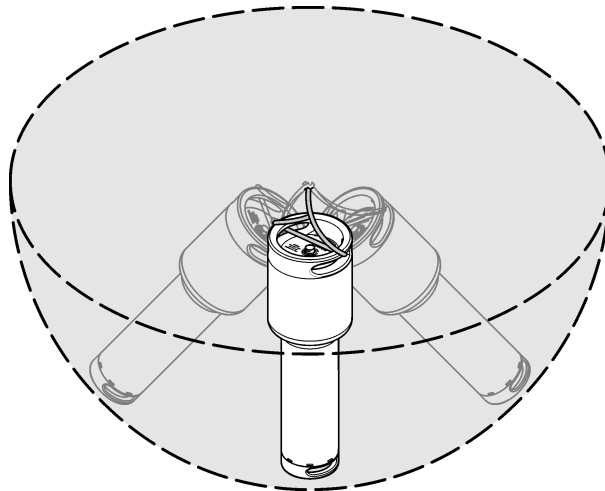

Figure 1 Flow Meter friction clearance
*Installation of equipment into hazardous locations must be done so that no friction can be generated between the Flow Meter and any surrounding surfaces (Figure 1).*